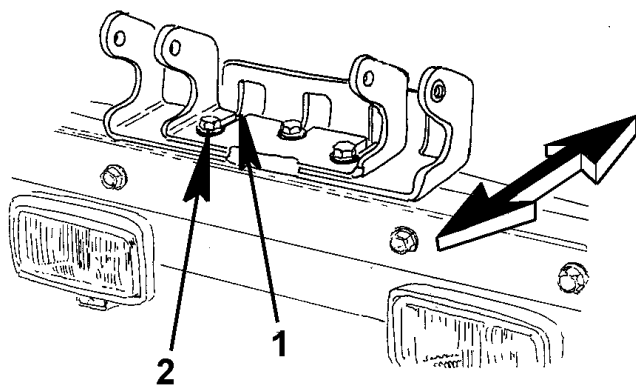

Figure 49 Hood Hinge Adjustment
2. To adjust hood forward and back (reference Figure 49), loosen the hinge mounting bolts at the mounting plate (Figure 49, Item 2) on the front cross member.